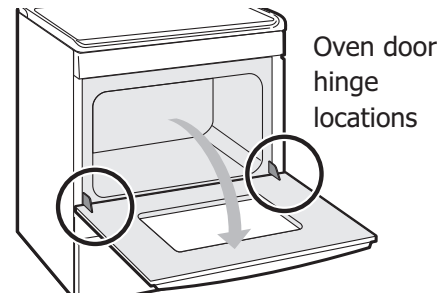

Figure 9: Door hinge location
1. Open oven door completely, horizontal with floor (See Figure 9).
3. Fully open the oven door, horizontal with floor (See Figure 9).